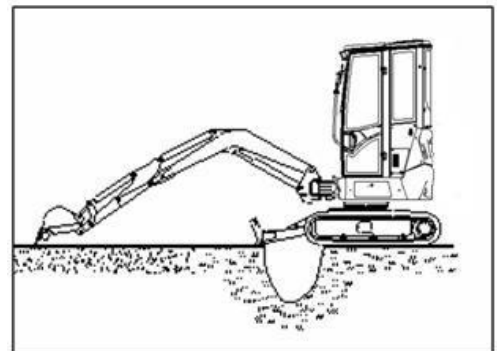

FIG. 4.4.6
- 6) When the machine gets into wallow or passes raceway, you can use arm and boom to help the machine pass (FIG. 4.4.6).